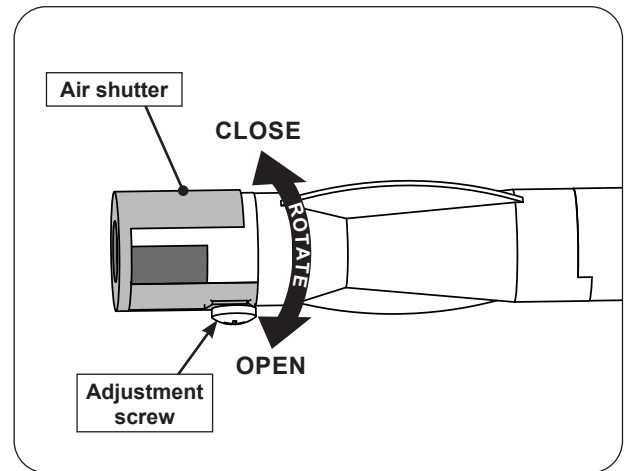

Fig. 55-1 Double side burner air shutter adjustment detail
2. Loosen the adjustment screw with a screwdriver, then carefully rotate the shutter to open or close it. See Fig. 55-1 for details.